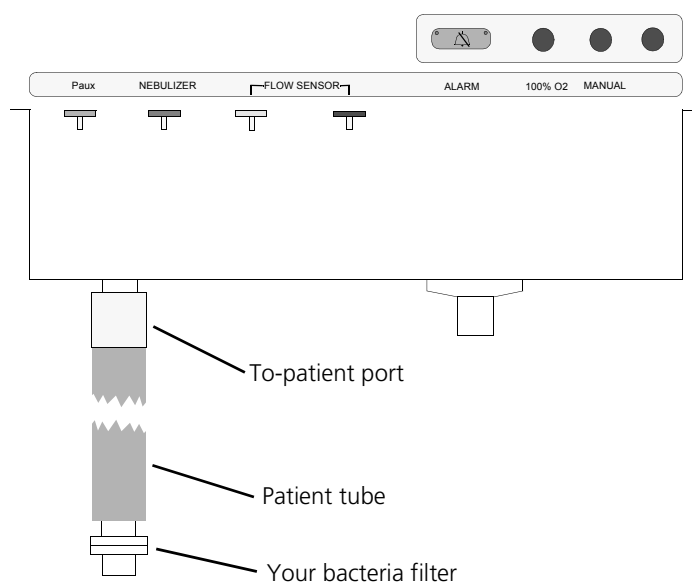

Figure 9-32. Tubing setup for the ambient valve check
1. Connect the patient tubing and your own personal bacteria filter as shown in Figure 9-32 below.